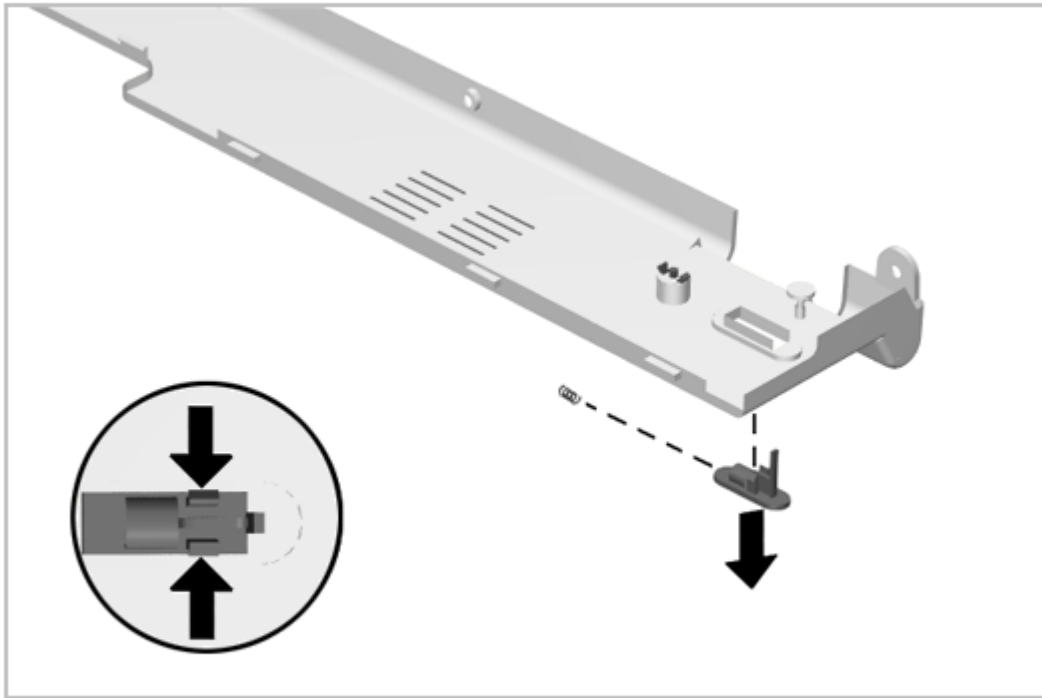

Figure 5-24. Removing the Power Switch Actuator
2. From the bottom side of the CPU cover, squeeze the tabs and push the switch actuator and its installed spring out of the cover (Figure 5-24).